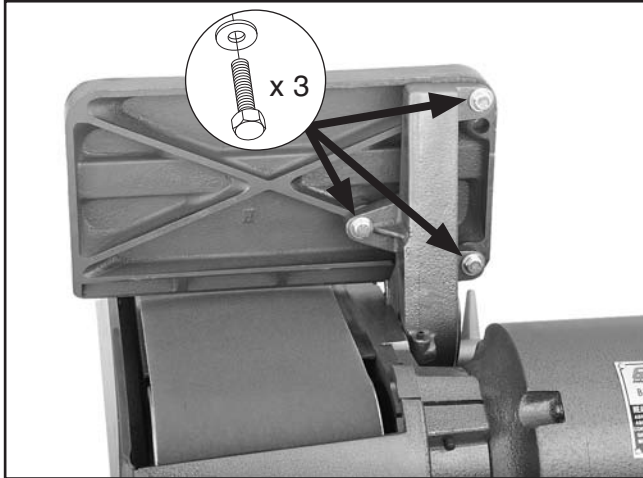

Figure 14. Sanding belt table installed.
- Attach the sanding belt table to the trunnion by finger tightening the (3) $\frac{5}{16}$ "-11 x 1" hex bolts and $\frac{5}{16}$ " flat washers from underneath the table, as shown in **Figure 14**. The hex bolts will be fully tightened when aligning the tables in later steps.